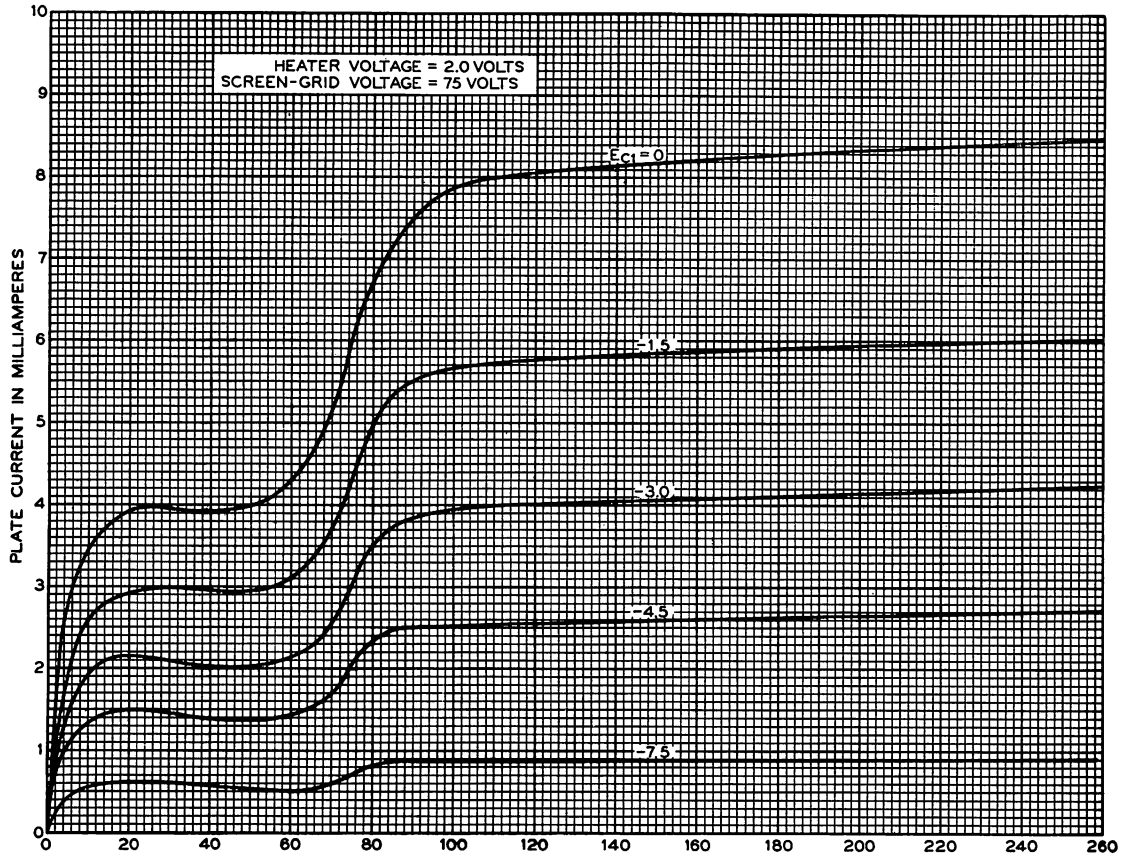
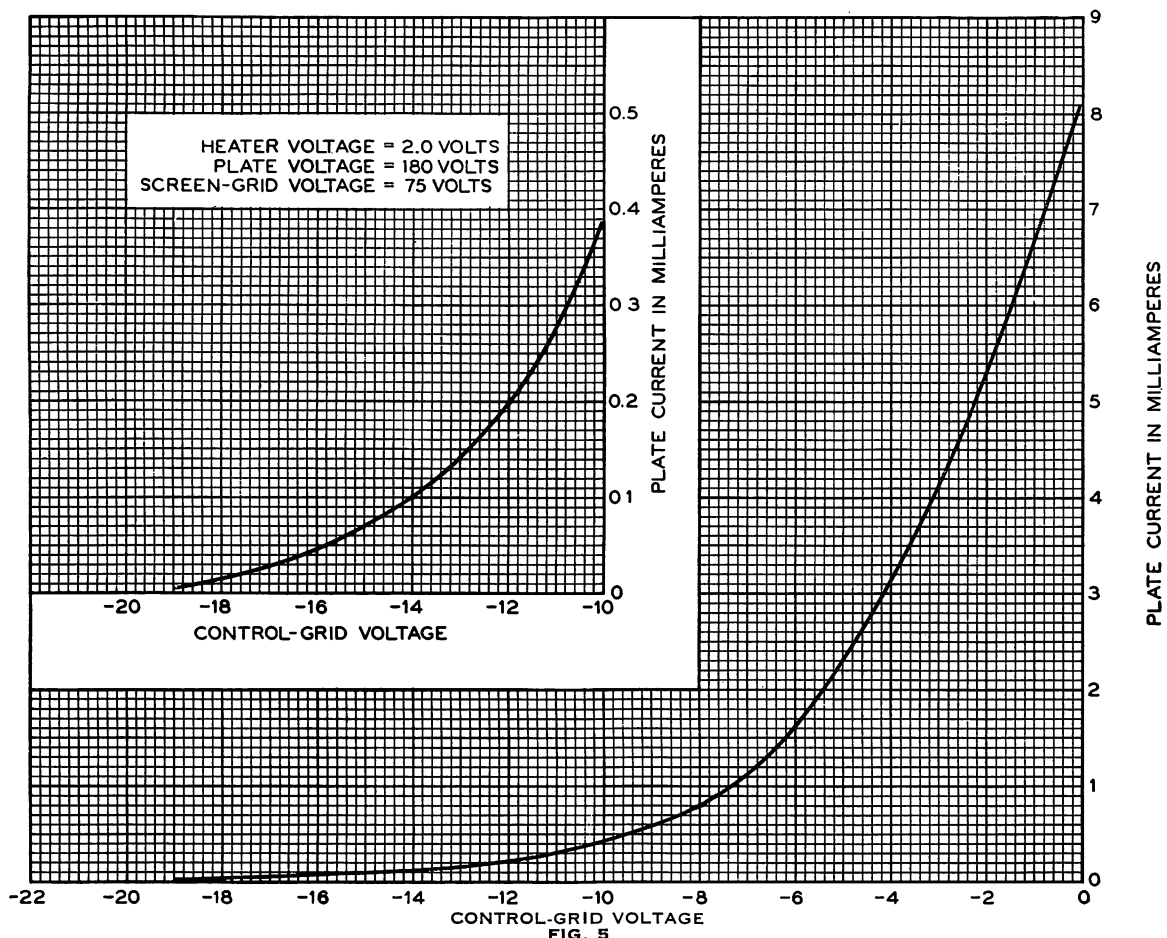
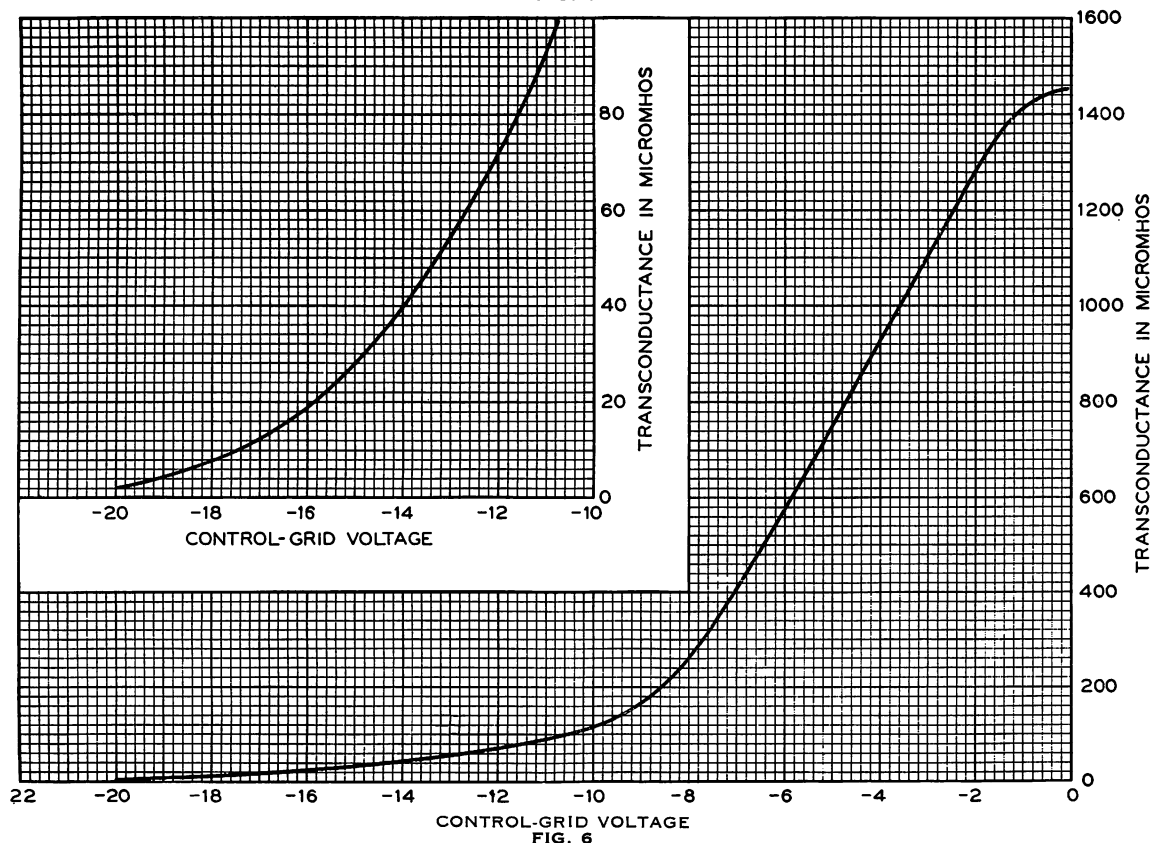

FIG. 3
FIG. 5
FIG. 6
**Characteristics**—Plate current and screen-grid current characteristics of a typical 283A tube are shown in Figures 3 and 4, respectively, as functions of plate voltage for a screen-grid voltage of 75 volts and several values of control-grid voltage. A typical plate current characteristic as a function of control-grid voltage is shown in Figure 5 for a plate voltage of 180 volts and a screen-grid voltage of 75 volts. The corresponding transconductance characteristic is given in Figure 6. For other plate voltages between 135 and 250 volts, the transconductance of a typical tube, for values above 5 micromhos, does not differ by more than  $\pm 2$  per cent from its value at 180 volts. Amplification factor and plate resistance characteristics as functions of control-grid voltage are shown in Figures 7 and 8, respectively for a screen-grid voltage of 75 volts and several values of plate voltage.
**Variable-Mu Feature**—The 283A tube is particularly well adapted to amplifier applications where the sensitivity is controlled by varying the grid bias. As the control grid is made more negative, the plate current and transconductance approach zero gradually, as shown in Figures 5 and 6, rather than sharply, so that distortion is relatively small at all values of grid bias.